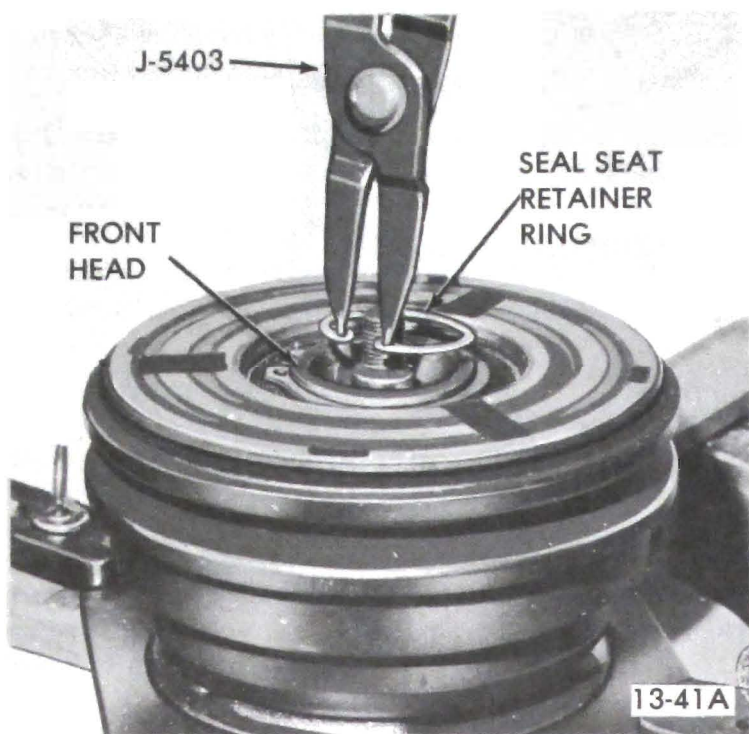

Figure 13-26 Removing or Installing Shaft Seal Seat Retaining Ring
5. If compressor has an absorbent sleeve in the neck, pry out the sleeve retainer and remove the sleeve. Remove the seal seat retainer ring, using No. 21 Truarc pliers, Tool J-5403, (see Figure 13-26).